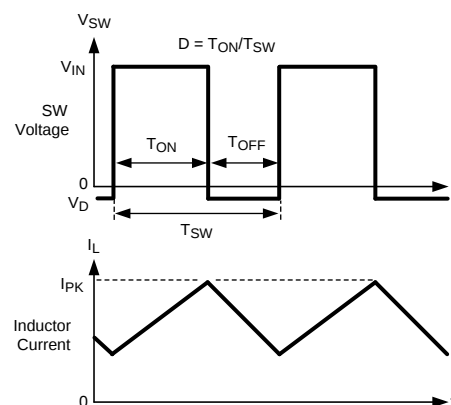

Figure 12. LM2734 Waveforms of SW Pin Voltage and Inductor Current
The following operating description of the LM2734 device will refer to the Simplified Block Diagram () and to the waveforms in Figure 12. The LM2734 device supplies a regulated output voltage by switching the internal NMOS control switch at constant frequency and variable duty cycle. A switching cycle begins at the falling edge of the reset pulse generated by the internal oscillator. When this pulse goes low, the output control logic turns on the internal NMOS control switch. During this on-time, the SW pin voltage (V_{SW}) swings up to approximately V_{IN} , and the inductor current (I_L) increases with a linear slope. I_L is measured by the current-sense amplifier, which generates an output proportional to the switch current. The sense signal is summed with the regulator's corrective ramp and compared to the error amplifier's output, which is proportional to the difference between the feedback voltage and V_{REF} . When the PWM comparator output goes high, the output switch turns off until the next switching cycle begins. During the switch off-time, inductor current discharges through Schottky diode D1, which forces the SW pin to swing below ground by the forward voltage (V_D) of the catch diode. The regulator loop adjusts the duty cycle (D) to maintain a constant output voltage.
In the simplified block diagram of Functional Block Diagram, capacitor C_{BOOST} and diode D2 supply the gate-drive current for the NMOS switch. Capacitor C_{BOOST} is charged via diode D2 by V_{IN} . During a normal switching cycle, when the internal NMOS control switch is off (T_{OFF}) (refer to Figure 12), V_{BOOST} equals V_{IN} minus the forward voltage of D2 (V_{FD2}), during which the current in the inductor (L) forward biases the Schottky diode D1 (V_{FD1}). Therefore, the voltage stored across C_{BOOST} is: